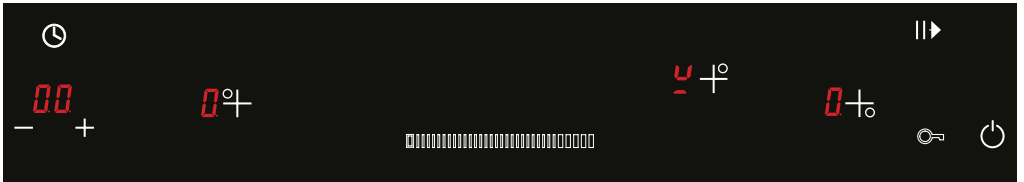

Figure 23
Cooking stops if there is no pot, the pot is not induction-compliant or if the pot is removed from the hob while cooking. No pot warning (U) is displayed on the touch panel for the relevant hob after 3 seconds. (See Fig. 23)